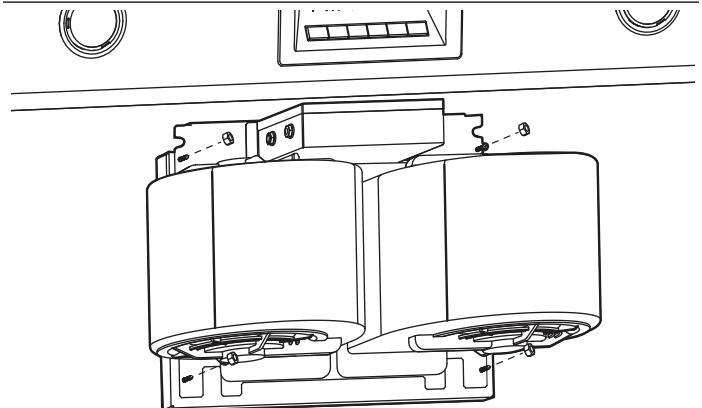

Figure 12: Weld Stud Location
1. The blower is attached to the hood using weld studs on the mounting plate. Figure 12 exhibits the weld stud locations.